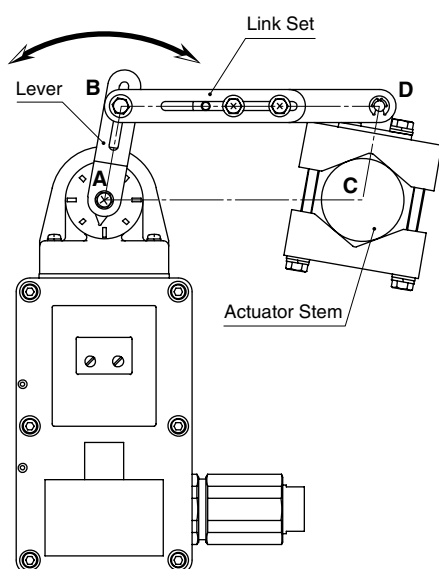

Fig. 5
- 2) Set the connecting pin (or bolt) position relative to other components so that the length A - B and C - D is the same. See Figure 5.